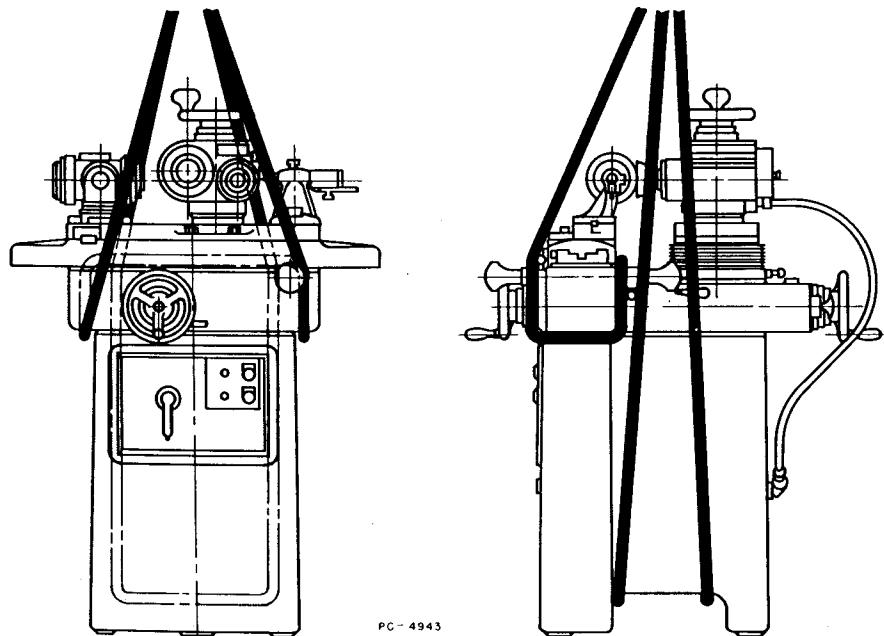

Figure 8A
**Lifting the Machine.** The machine may be lifted by a crane with a rope sling placed through the toe holes at the bottom of the base, as shown in Figure 8A. Before lifting the machine be sure that all slides are moved to their innermost positions and are securely clamped.